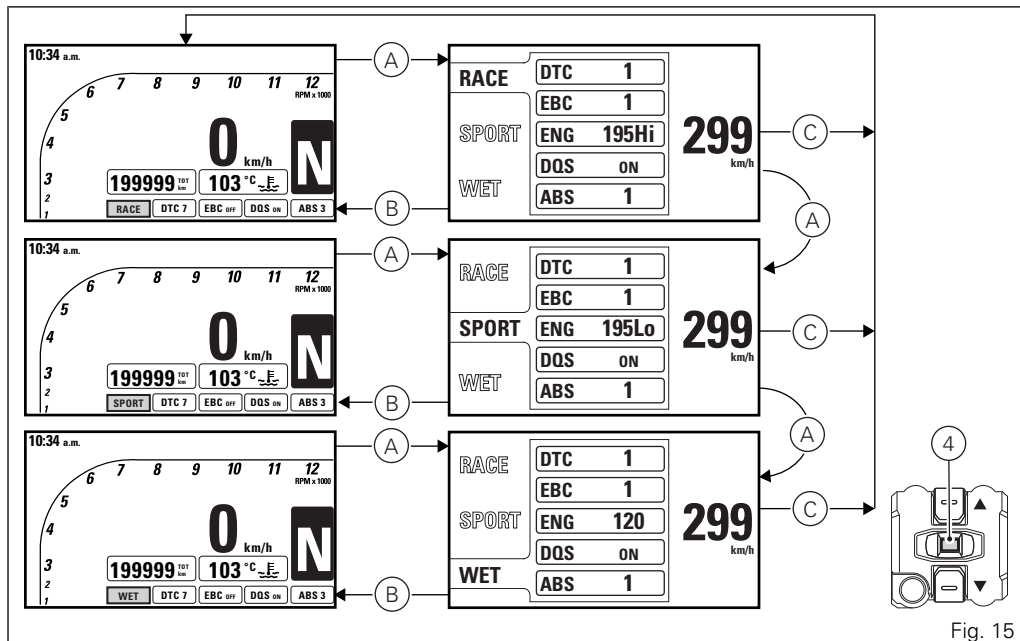

Fig. 15
MENU button (4) is pressed, the selected riding mode is highlighted together with the associated parameters (A, Fig. 15).
Once the desired riding mode is highlighted, confirm the selection by holding down the CONFIRM MENU button (4) for 2 seconds: the new riding mode selection is stored and the Standard Screen (B, Fig. 15) is displayed.
Once the desired riding mode is highlighted, if the CONFIRM MENU button (4) is not pressed within 10 seconds, the new riding mode selection is not stored and the Standard Screen (C, Fig. 15) is displayed.